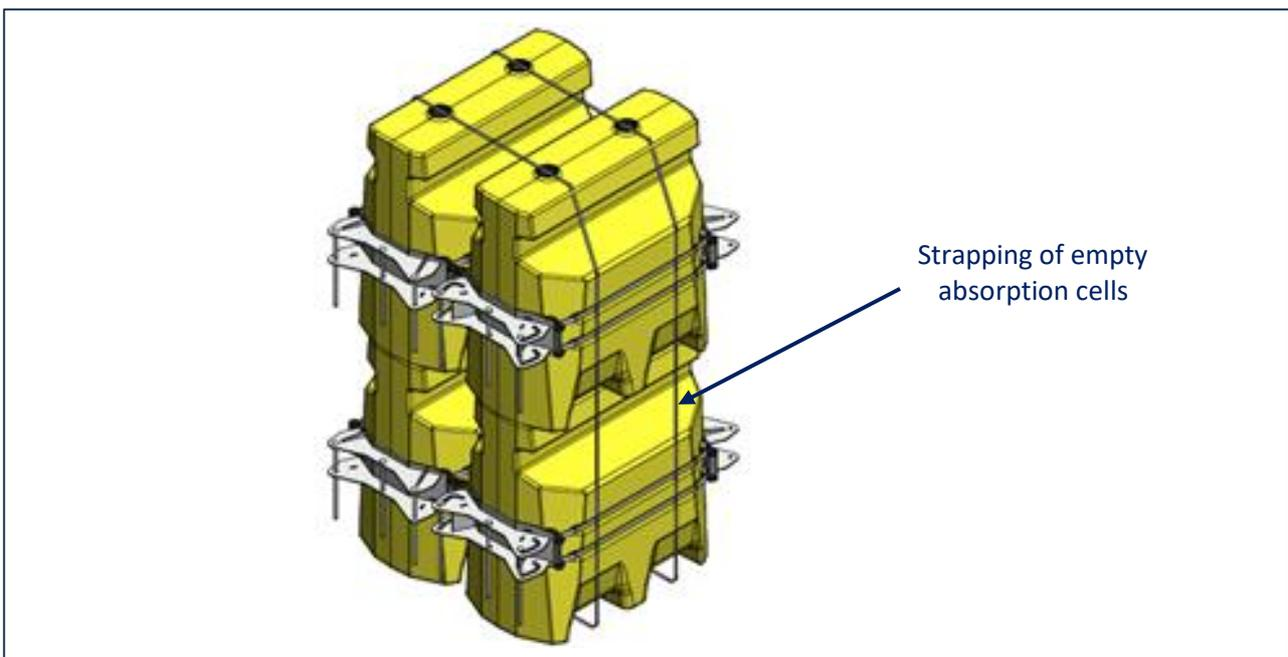

Figure 4: Bundling of Empty Absorption Cells for Transportation
When the absorption cells are full, they should not be stacked on top of each other to avoid damage. If the cells are empty, they may be grouped together in bundles of up to four (4) to facilitate transportation and handling as shown in Figure 4.